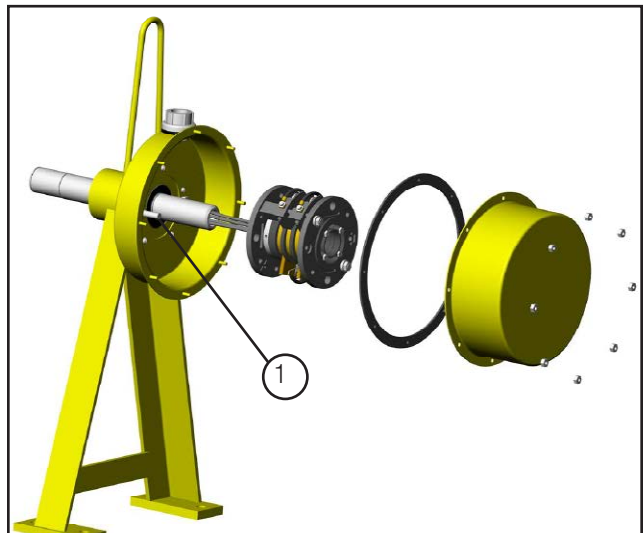

Figure 13-3 1. Drive Pin
9. Be sure the hole in the Slip Ring Outboard Bearing closest to Brush #2 fits over the Drive Pin. The Drive Pin must extend through the hole. See **Figure 13-3**.